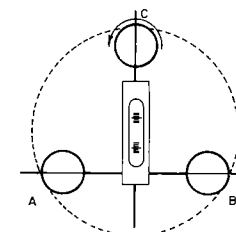

Figure 4
4. Rotate the instrument 90 degrees and position telescope level vial over leveling screw C (see Figure 4).